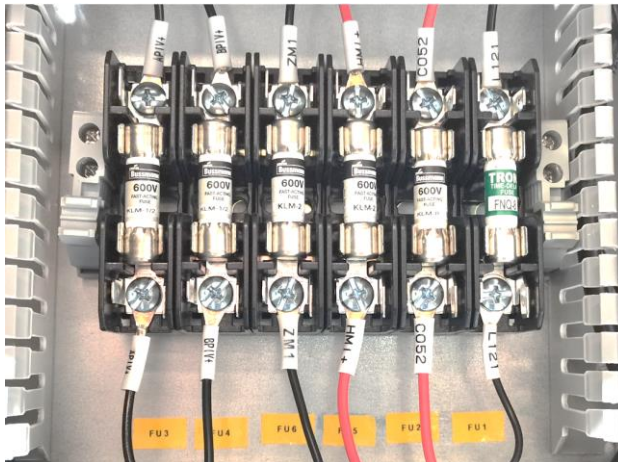

Fig. 6-13 Type and ratings of fuses
- To reduce the risk of fire, replace only with same type and ratings of fuse as shown in Fig. 6-13.